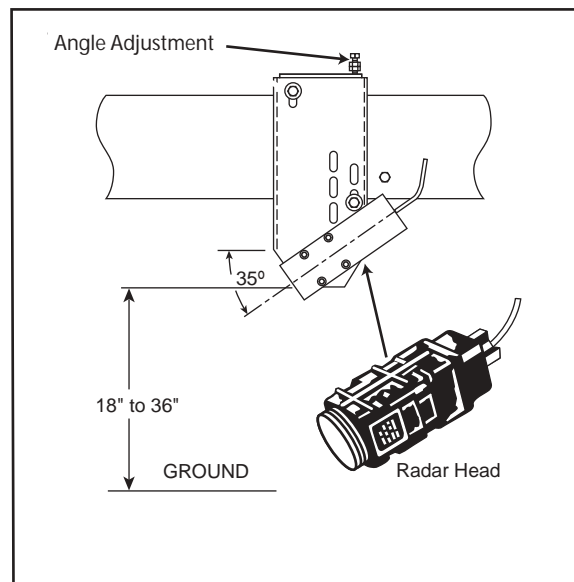

Figure 5
1) Check Radar Head mounting: (Refer to Figure 5)
- a) Check Radar Head angle (Refer to Figure 5)